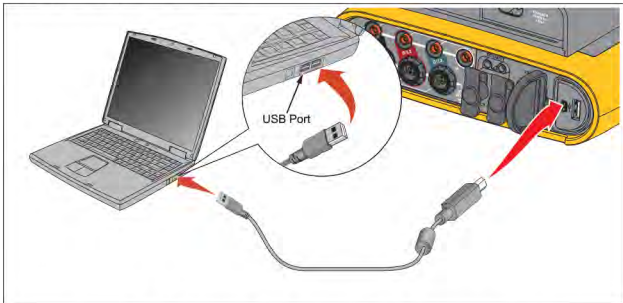

Figure 8. Power Logger to PC Connections
- 3. Connect the USB cable to the USB ports of the computer and the Logger. See Figure 8.